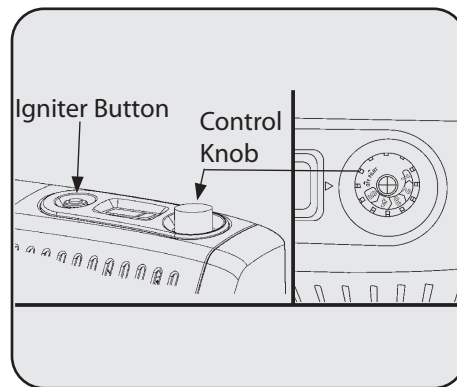

Figure 16
3. Push in gas control knob and slightly turn clockwise  to the OFF position. See Figure 16.